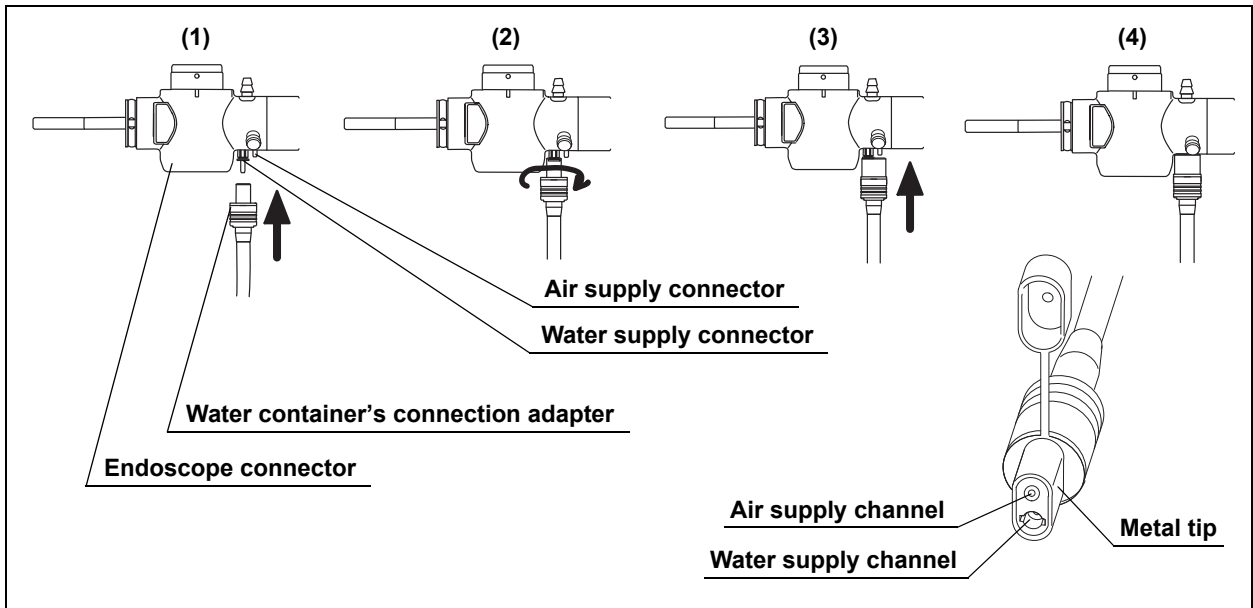

Figure 3.20
3. Place the water container's water supply channel onto the water supply connector on the endoscope connector at an angle of 90° and push it in until it stops (see Figure 3.20 (1)).
4. Turn the water container's connection adapter 90° clockwise to align the air supply channel with the air supply connector on the endoscope connector (see Figure 3.20 (2)).
5. Push the water container's connection adapter again until it stops (see Figure 3.20 (3)).
6. Confirm that the water container's connection adapter fits properly and that it cannot be rotated (see Figure 3.20 (4)).